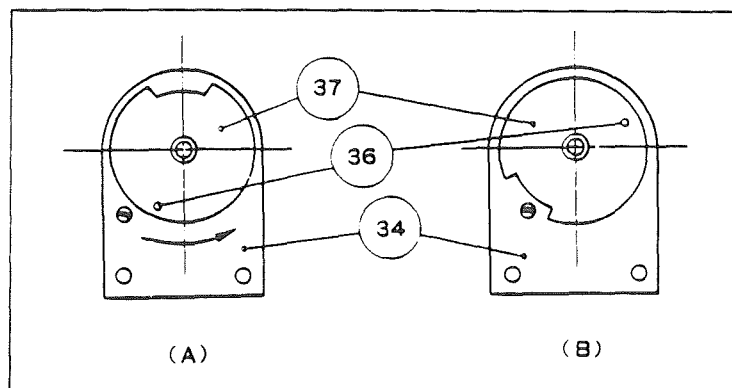

Fig. 7
- 3) Keeping the spiral spring, the inner end in the pin hole, turn the washer (37) in the arrow direction (A) and to be positioned as shown by (B) in Fig. 7.